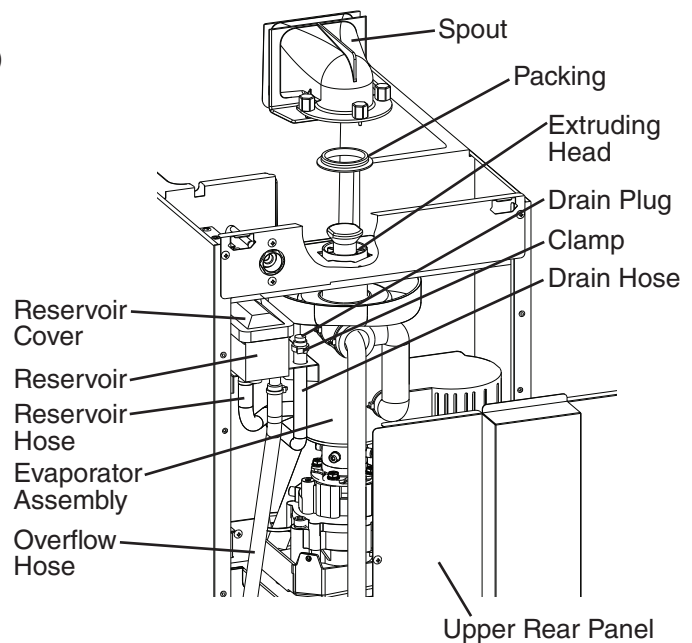

Fig. 32
- 9) Remove the clamp securing the drain plug, then lower the drain hose into a container. See Fig. 32. Remove the drain plug to drain the water from the reservoir and evaporator assembly.
- 7) Remove the clamp securing the drain plug, then lower the drain hose into a container. See Fig. 32. Remove the drain plug to drain the water from the reservoir and evaporator assembly.